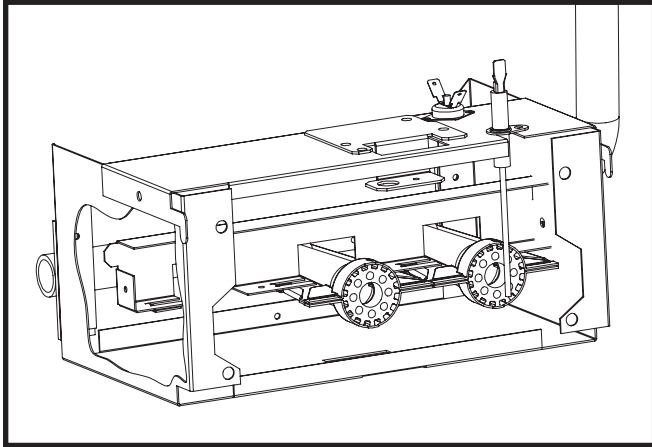
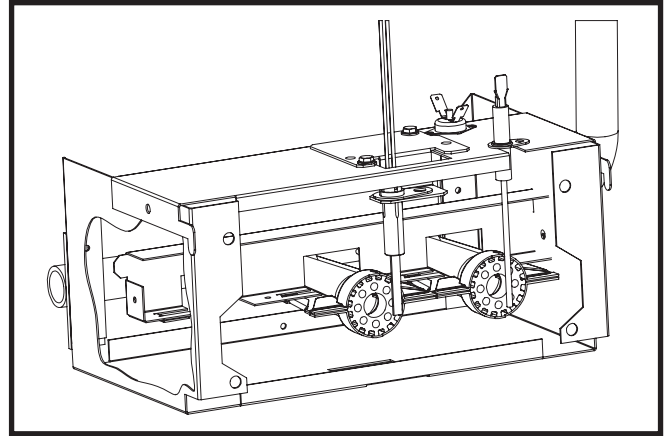

Figure 3. R8GE, R8GD and R104GD
Figure 4. R8GE, R8GD and R104GD
2. Insert new bracket in the burner box opening but do not fasten. See Figure 3.
4. Using (2) of the screw provided, fasten the bracket to the burner box.
5. Using (1) screw, fasten the igniter to the bracket and re-attach the molex plug.
7. The finished assembly should look like Figure 4, the igniter parallel to the burner face.